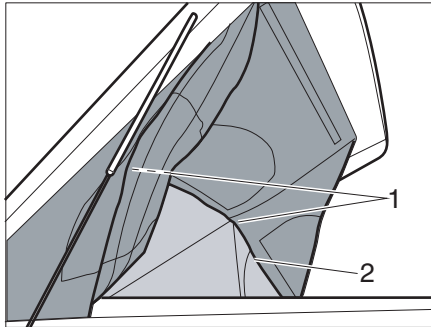

Fig. 38 Panorama function
- ▶ Open the zip (Fig. 38,2) all round the pop-up roof.
- ▶ Secure the side panels and front panel to the pop-up roof with Velcro (Fig. 38,1).